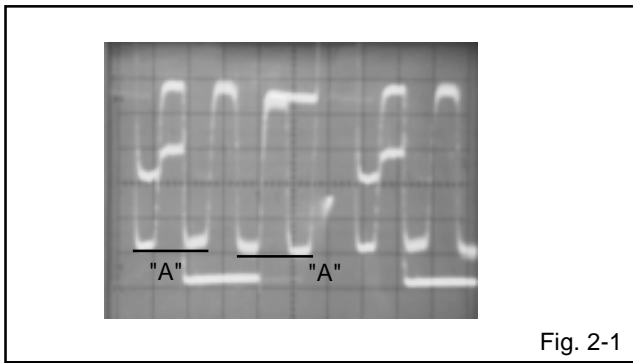

Fig. 2-1
4. Press the VOL. UP/DOWN button on the remote control until the section "A" becomes as straight line. (**Refer to Fig. 2-1**)